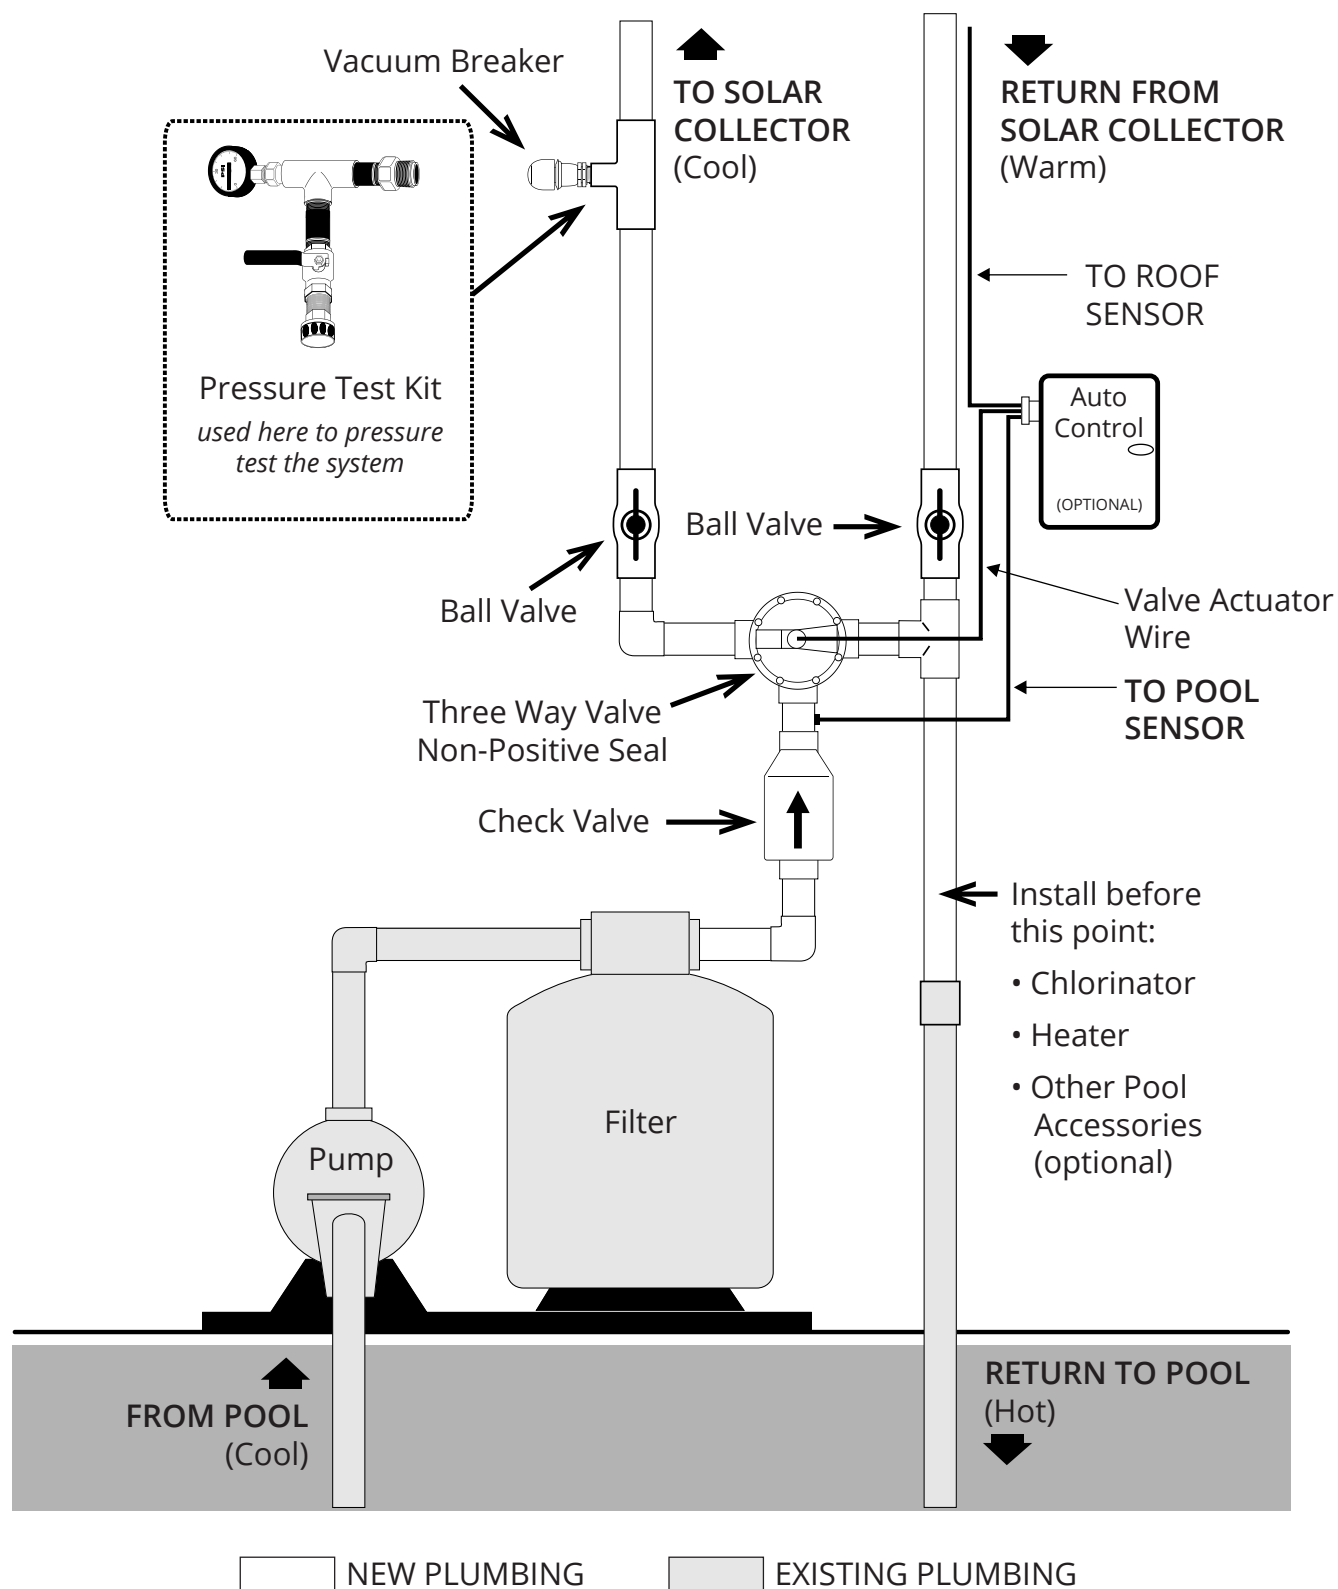

Fig. 14
Fig. 14 shows how a typical Heliocol solar pool heating system is plumbed into existing pool plumbing. While the pool equipment may not always be configured exactly as shown it illustrates the key points for interconnecting the solar pool heating system to pool's filtration loop.
2. Locate a point in the filtration line after the filter and prior to any other pool equipment to make the interconnection for the solar loop (Fig. 14). Pool equipment that has been plumbed tightly together may require significant reconfiguration. All piping being used in the solar loop should be minimum 2" Sch. 40 PVC.
3. Cut the pipe after the filter at the location where the solar loop will interconnect. There should be enough room to plumb in a check valve and tee as shown in Fig. 14.
5. The three-way diverter valve should be installed after the check valve. It is advisable to install the valve in the standard position with the common port facing the check valve as shown in Fig. 14. This will allow for installing an actuator motor without having to reset the cams for automatic systems.